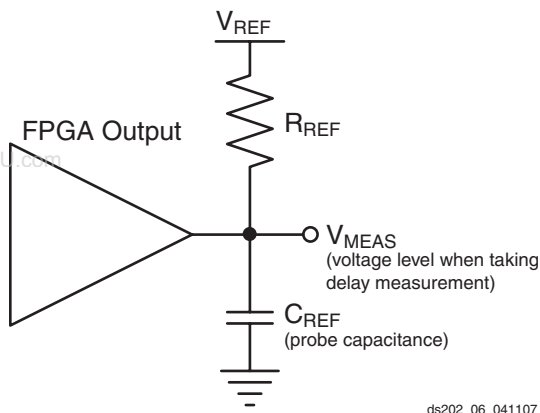

Figure 6: Generalized Test Setup
- This is an input voltage reference that bears no relation to the V_{REF} / V_{MEAS} parameters found in IBIS models and/or noted in Figure 6.
Output delays are measured using a Tektronix P6245 TDS500/600 probe (< 1 pF) across approximately 4" of FR4 microstrip trace. Standard termination was used for all testing. The propagation delay of the 4" trace is characterized separately and subtracted from the final measurement, and is therefore not included in the generalized test setup shown in Figure 6.